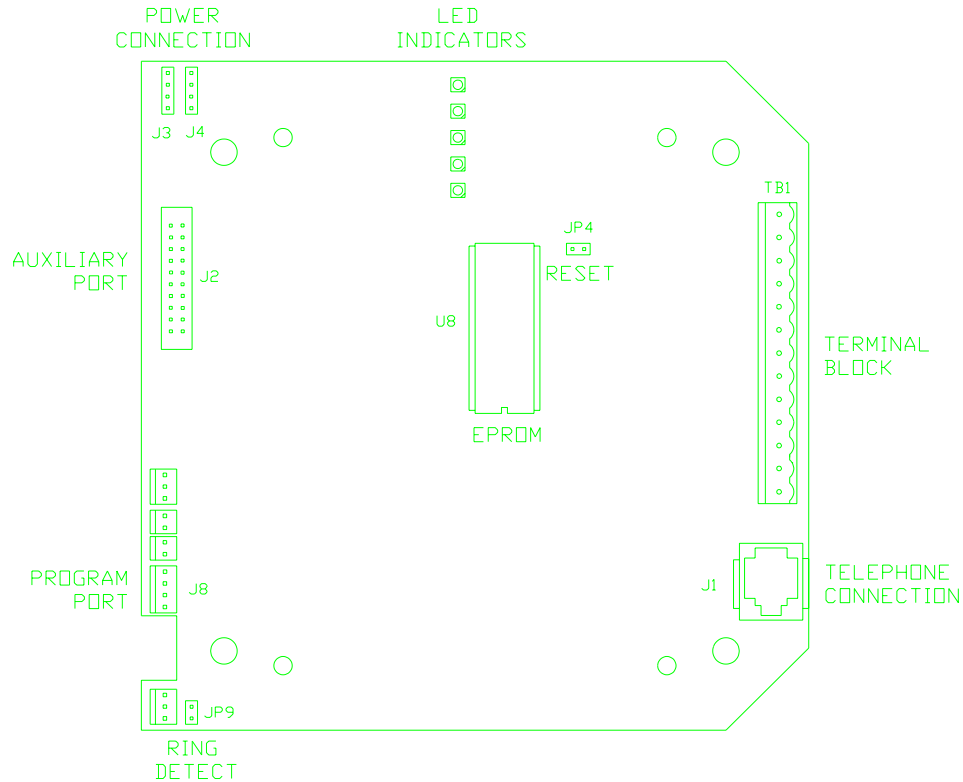

Figure 3-5. IMU-II/S Board
Ring Detect allows the IMU-II/S to answer incoming calls from the central computer system. If you requested ring detect capabilities on your IMU-II/S, a jumper should have been installed when it was shipped. Verify that the jumper JP9 on the IMU-II/S board is present. To determine the exact location of JP9, refer to Figure 3-5.
1. Connect the Serial Interface Cable to the IMU-II/S board at J8. Refer to Figure 3-5 for the exact location of the connector.